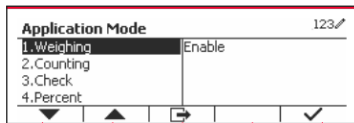

Figure 25
3. Press the softkey corresponding to the ✓ icon to enter the submenu Application Mode. (See Figure 25)